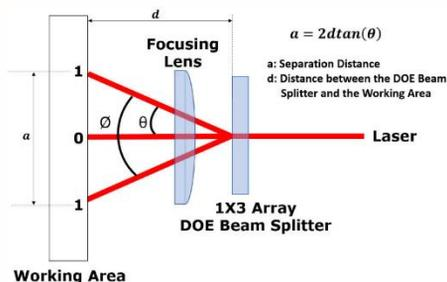

Figure 1. 1x3 Array Beam Splitter
A DOE beam splitter is used to split a collimated incident beam into multiple beams. The power is shared between the resultant beams. These beams, form a 1xN array (1-dimension) or MxN array (2-dimension) depending on the setup. Resultant beams exit the beam splitter with separation angle θ (Figure 1). For odd number of beams (N), there is a desired beam that falls on the 0-order. For even number of beams, there is no beam on the 0-order. To achieve well-defined spots at the desired working distance, focusing lenses are often used, as seen in Figure 1 and 2.